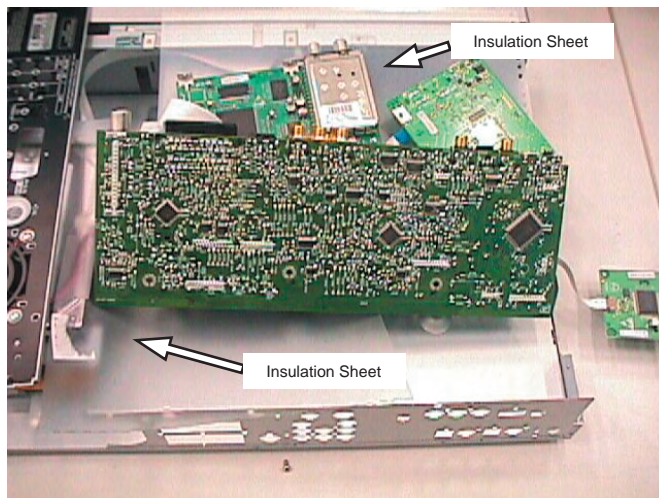

Figure 4-14: HDMI and Analog Boards Service Position
- 4) Service Position is achieved by placing the Analog Board in the vertical position as shown in Figure 4-14.